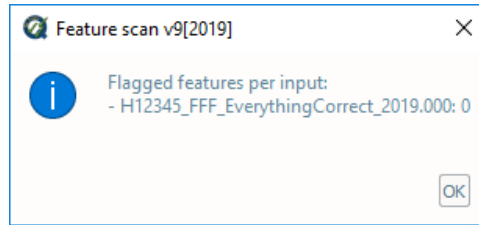

Fig. 2.26: The output message at the end of **Feature scan** execution.
- After computing, the output window opens automatically, the results are shown (Fig. 2.26).